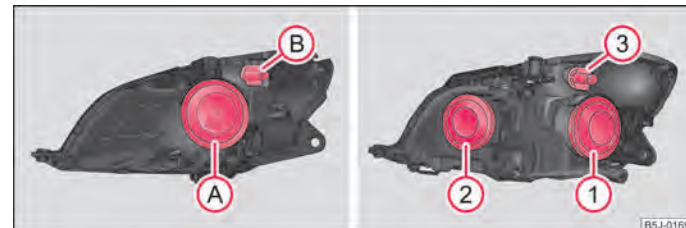

Fig. 157 Fitting position of the bulbs: Halogen headlights/halogen projector headlights
- Remove the protective cap (A) ⇒ fig. 157.
- Remove the protective cap (1) ⇒ fig. 157.
- Remove the protective cap (2) ⇒ fig. 157.
- Turn the socket (B) ⇒ fig. 157 or the socket (3) to the left and take it out together with the light bulb for the turn signal light.
- Remove the protective cap (A) or (Z) ⇒ fig. 157.